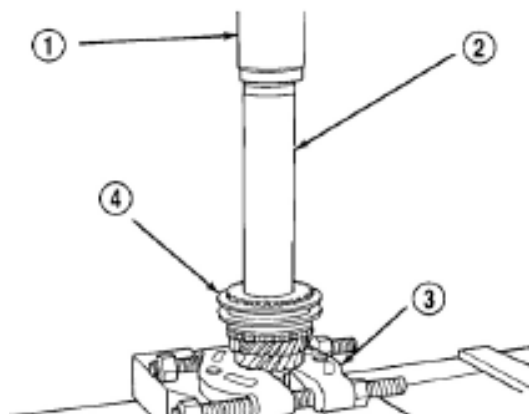

Figure 3-135 Press mounting the third gear and synchronizer gear hub
(3) Install the third gear and 3-4 synchronizer on the input shaft and cover the input shaft with tool C-3717, then press the synchronizer teeth hub and third gear (Figure 3-135). Synchronizer teeth hub is printed with letter "U" indicating the U side must be placed up during assembly.